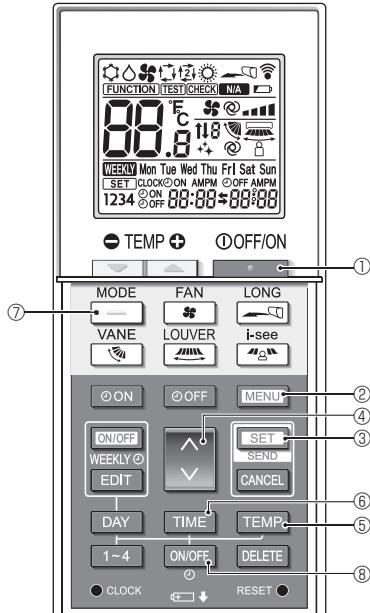

Fig. 5-10
The Function setting screen will be displayed and the function No. Ⓐ will flash. (Fig. 5-10)
- The function No. Ⓐ blinks (Fig. 5-10)